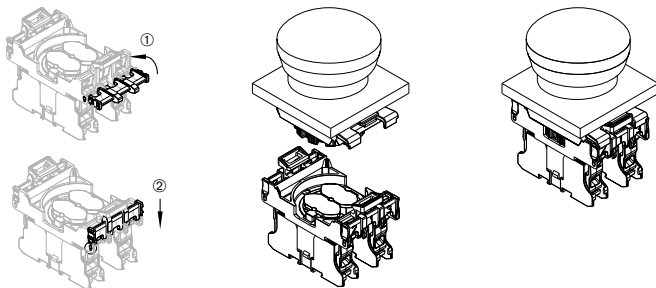

Fig. 5 Fig. 6 Fig. 7
4. Closing and pressing down the contact fitting (see Fig. 5): the contact fittings to the left and the right are folded up 90° and then pressed down until they engage. In this way, the contact elements are additionally mechanically secured to the contact carrier.